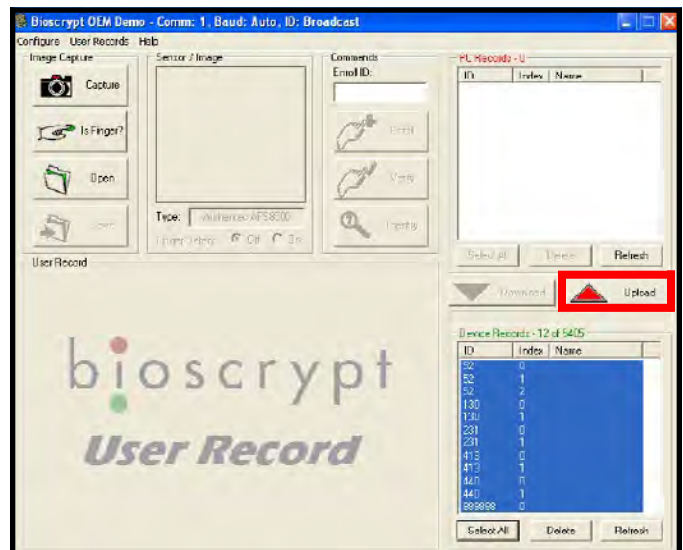

Figure 46. Bioscrypt, copying templates to the PC
- III. Once selected, click the "Upload" button to copy the files over to your PC. These files will be saved in the folder specified in the "Configure" > "Set Storage Directory" setting of the program (see Figure 46).